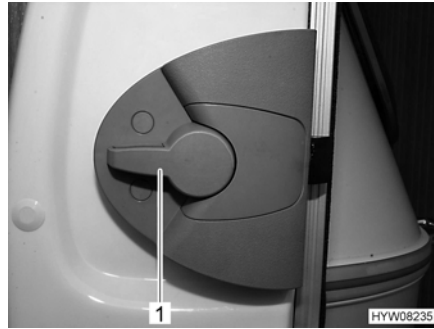

Fig. 12 Door lock, conversion door, inside
- Opening:* ■ Push the handle (Fig. 12,1) down.
- Locking:* ■ Turn the handle (Fig. 12,1) approx. 45° upward and leave it in this position.